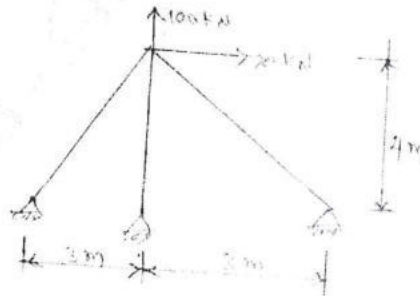

Fig. Q10
- 10 Analyse the truss shown in Fig. Q10 by stiffness method and find the forces in the members. (20 Marks)